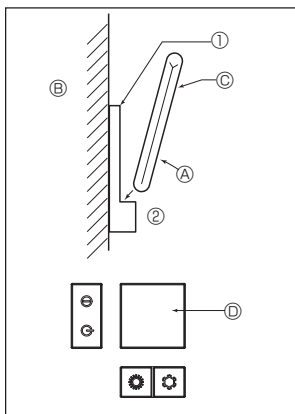
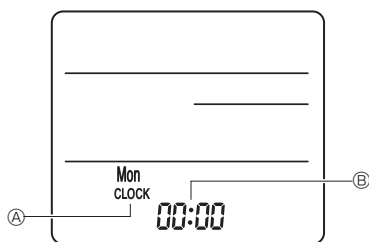

Fig. 7-7
Fig. 7-8
2) Installation method (Fig. 7-7)
- ① Attach the remote controller holder to the desired location using 2 tapping screws.
- ② Place the lower end of the controller into the holder.
3) Setting (Clock setting) (Fig. 7-8)